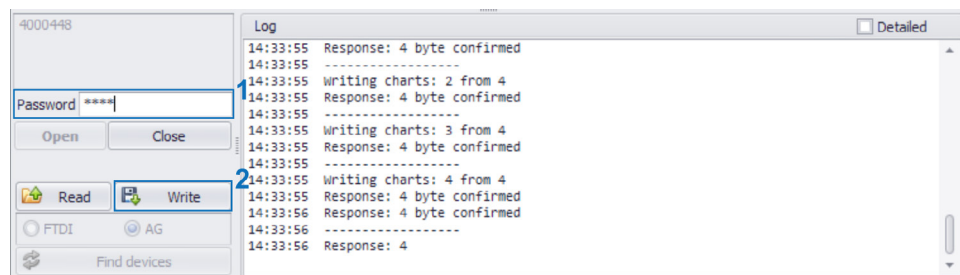

Fig.15. Save settings in the display.
- enter the device password in the «Password» field (Fig.15, i.1), then press the «Write» button (Fig.15, i.2) to save the specified settings in the connected device;